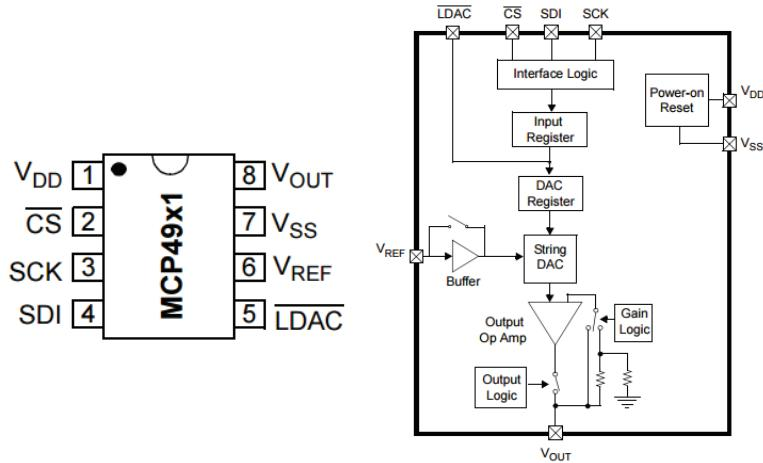

Figure 11: (a) Pinout diagram and (b) Block diagram of the MCP4921 DAC.
1. Build circuit shown in Fig. 11 on your breadboard.